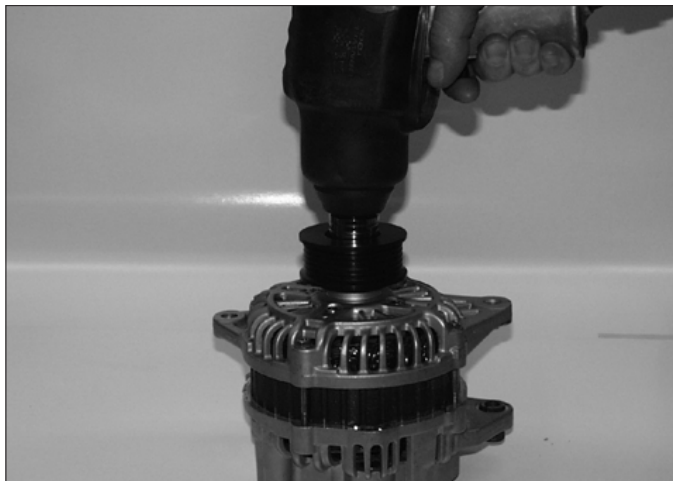

Fig. 6-1
- B. Remove the factory alternator pulley cap and using an impact gun with a 17mm allen head socket remove the stock pulley. (See Fig. 6-1.) Install the supplied pulley in its place securing with supplied 17mm nut. Heating the pulley will make the installation easier.